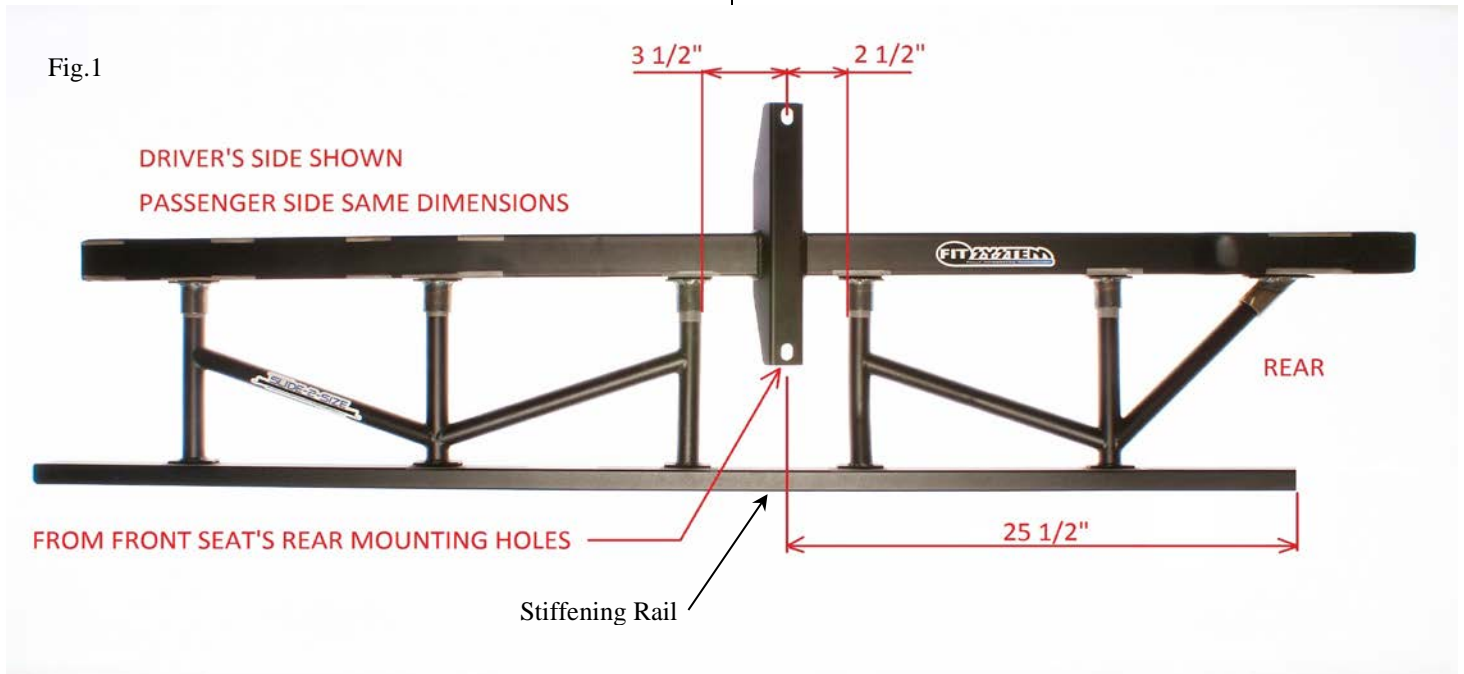

Fig.2
3. Locate and loosen fuel line retaining bracket along passenger side rear subframe (Fig.2); this will ease movement of lines.
13. Tighten retaining bracket from step #3 (Fig.2).